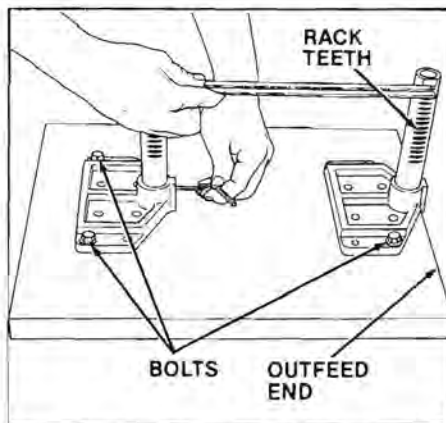
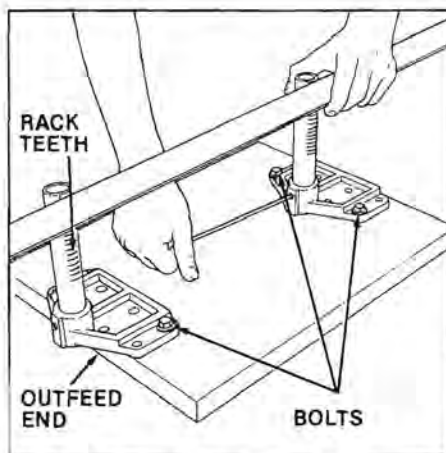

Figure 5. Table and table support assembly for Model 500.
Figure 6. Table and table support assembly for Model 510.
1. **Attach the table supports to the table assembly.** (See Figure 5 for **Model 500**, Figure 6 for **Model 510**.) With the outfeed end of the table assembly (32) positioned as shown, attach the two table supports (34) to the table assembly with the four bolts (33) and washers (33A) positioned exactly as illustrated. Finger tighten the bolts just enough to allow the table supports to be moved.
2. **Install and align the table posts.** (See Figure 5 for **Model 500**, Figure 6 for **Model 510**.) Insert both table posts (35) into the table supports (34), with the rack teeth of the posts positioned as shown. Make sure the posts bottom out in the table supports. Align the flats of the table posts with a straightedge, then use the 5/32" Allen wrench to tighten setscrews (36) securely.
3. **Clean and wax the table posts.** Clean the table posts (35) with mineral spirits. Then, sparingly apply floor or furniture paste wax on the posts, and rub it out thoroughly. Use a toothbrush or other stiff brush to remove any wax residue from the rack teeth of the posts.